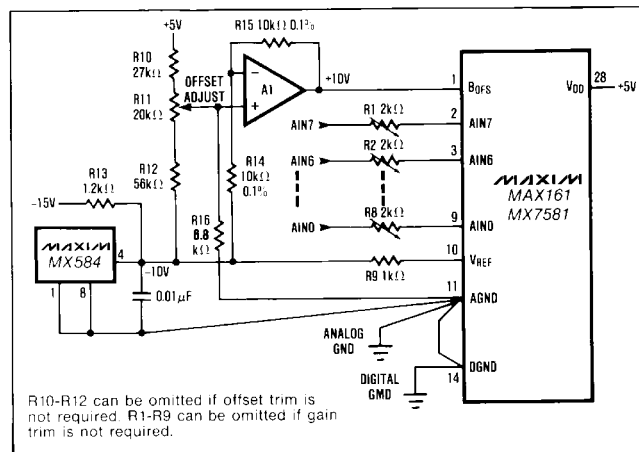

Figure 7. Unipolar (0 to -10V) Operation
**Note 4.** RBOFS/RAIN mismatch causes transfer function rotation about positive full scale. The effect is an offset and a gain term when using the circuits of Figure 7 and 9.
Figures 7 and 8 show the analog circuit connections and typical transfer characteristic for unipolar (0 to -10V input) complementary binary operation. Calibration is as follows: